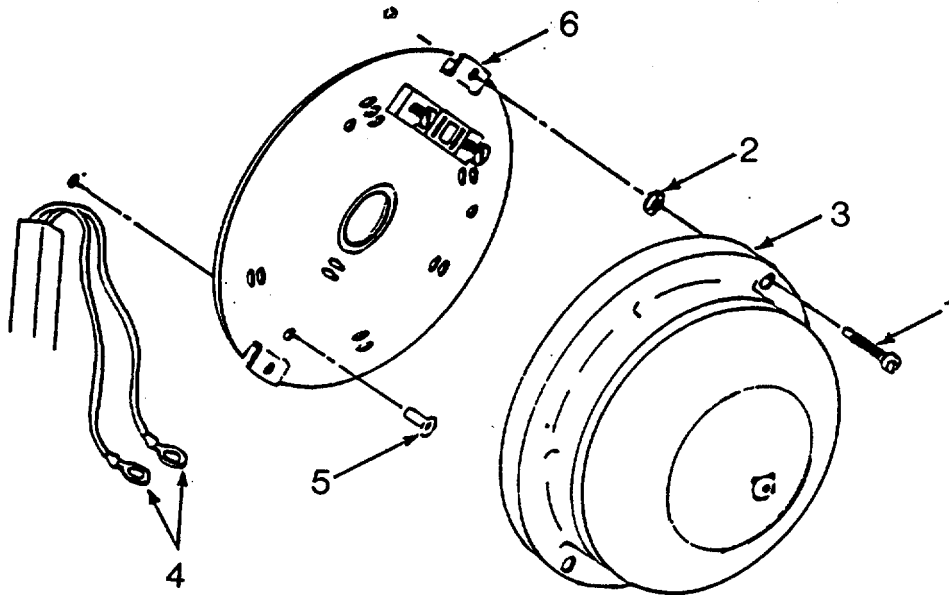

Figure 4-44. Blackout Warning Assembly Buzzer
(2) Warning Buzzer.
- (a) Remove warning buzzer screws (1, Figure 4-44) and lockwashers (2).
- (b) Remove buzzer (3).
- (c) Tag and disconnect electrical wires (4).
- (d) Remove rivets (5) by drilling or chiseling off heads.
- (e) Remove buzzer base (6).
- (f) Position buzzer base (6) of warning buzzer on wall and secure with rivets (5).
- (g) Connect electrical wires (4) to terminals and remove tags.
- (h) Position buzzer (3) on base and secure with screws (1) and lockwashers (2).